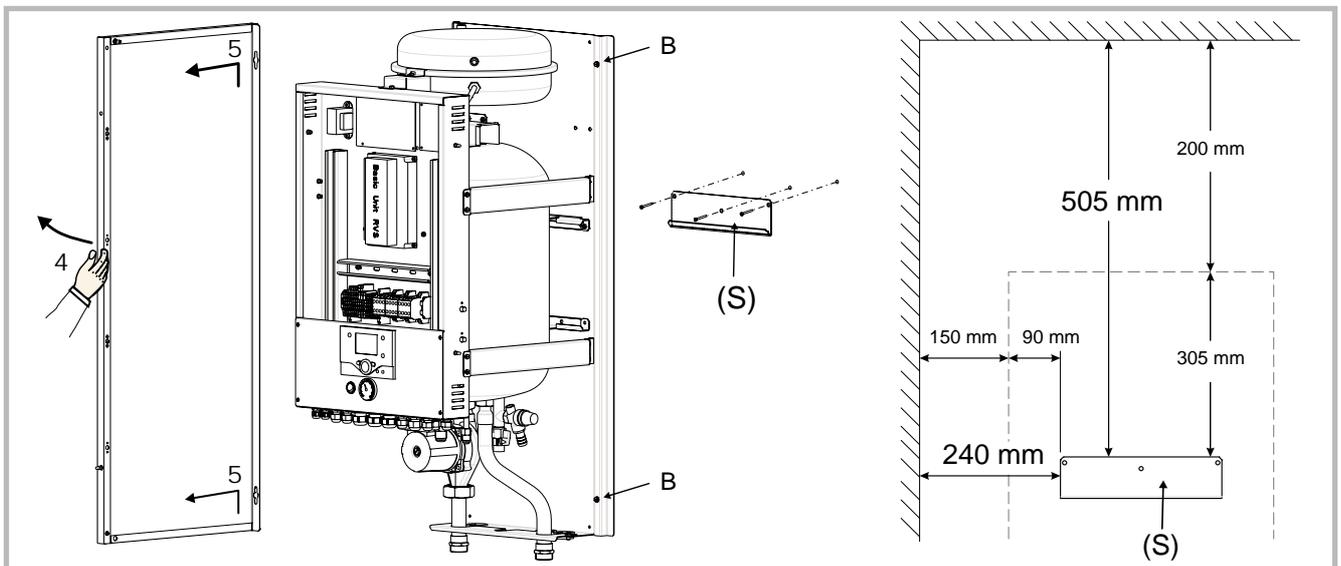

Figure 17 - Removing the sides and fixing the support (S)
- 4, 5 : Remove the sides (4 screws B, figure 17).